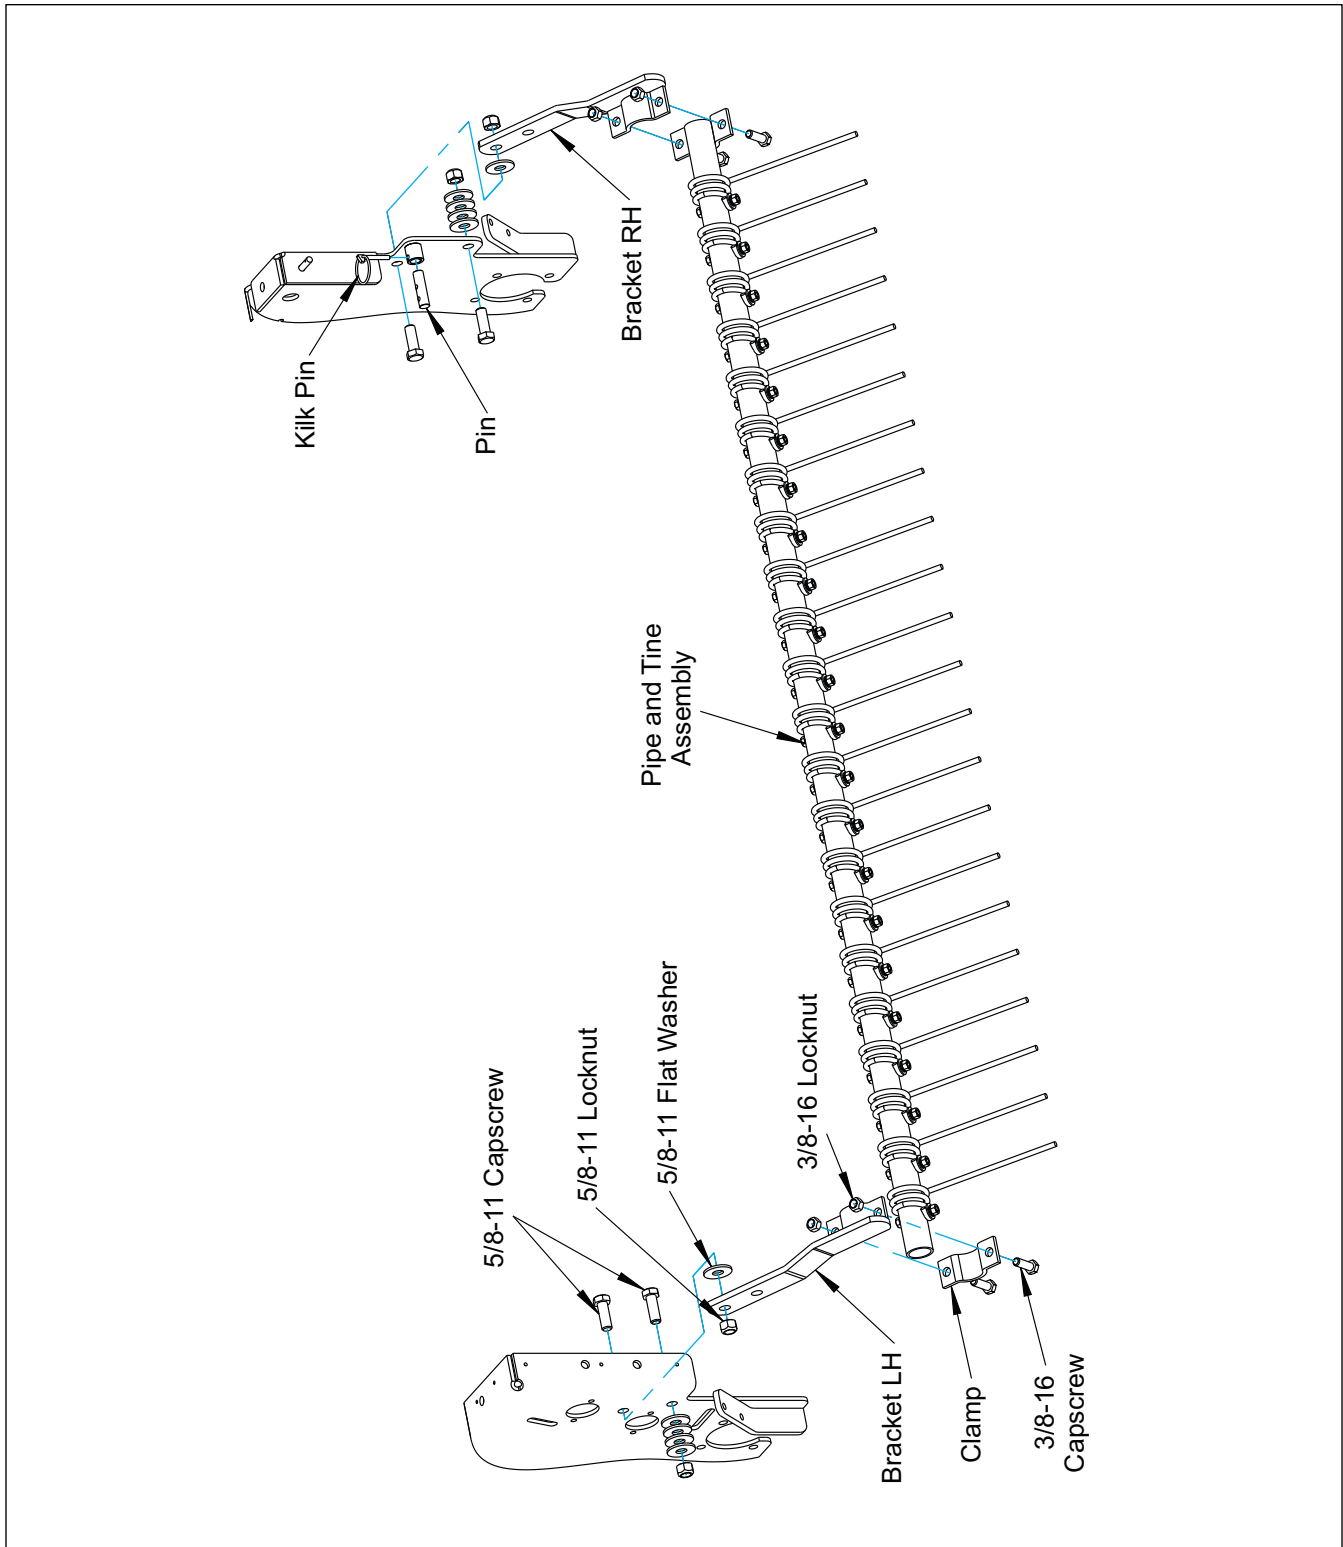

Figure 3-5: Coil Tine Setup
1. Install into each Frame End Plates lower 21/32" hole a 5/8-11 x 1-3/4" Capscrew, four Flat Washers and Lock Nut. See Figure 3-5.